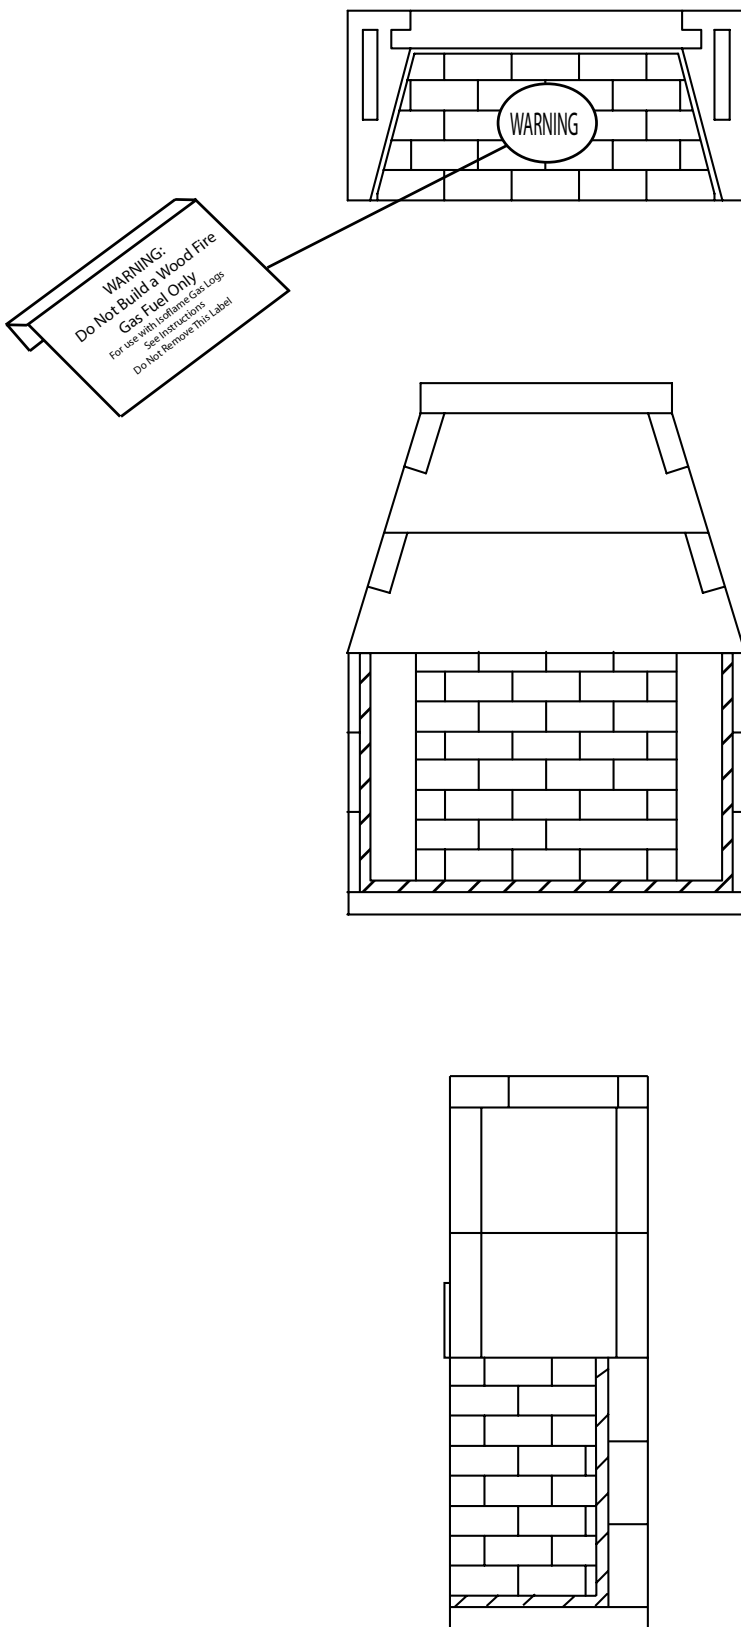

Figure 16
**Step 3:** Apply C-clamp warning label to center floor brick prior to mortar, ensuring verbiage is legible from front of firebox. (Figure 16)